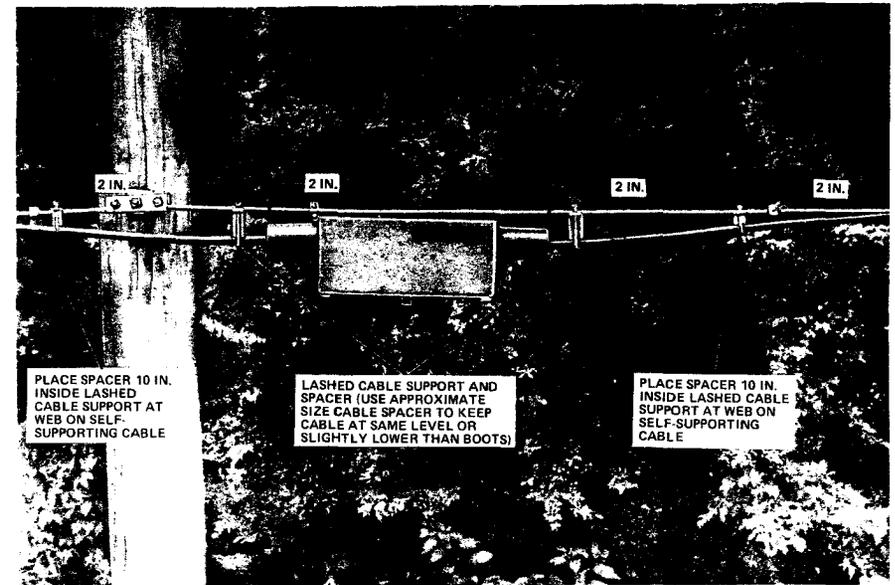

Fig. 26—Installing Cable Spacers
4.20 Close the cover and make sure the snap latches are secured. Place and secure the cable spacers as shown in Fig. 26.